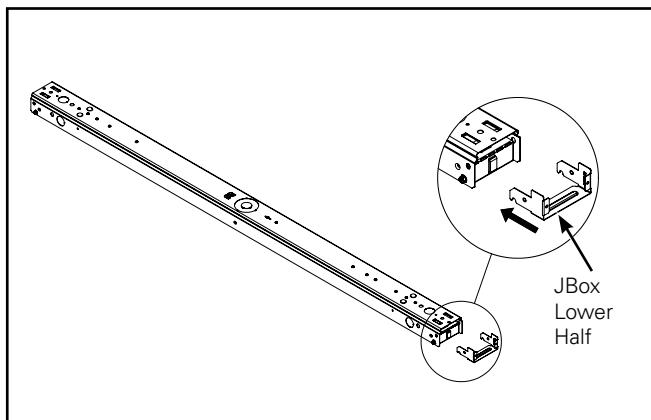

Figure 2.
2. Insert Junction box lower half in to fixture. (Figure 2.)